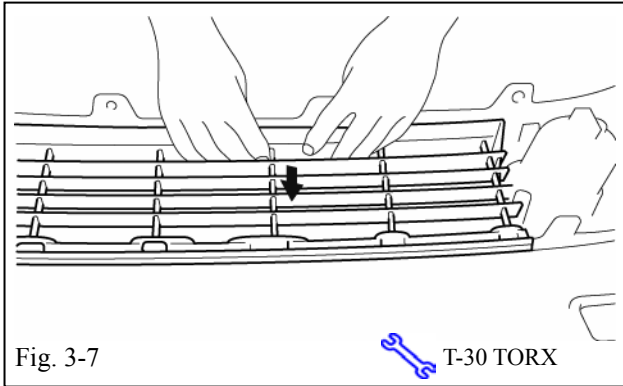

Fig. 3-7
- (a) Secure grill by pressing grill down and bumper tabs snap into place. (Fig. 3-7)
- (c) Tighten all six (6) TORX screws.